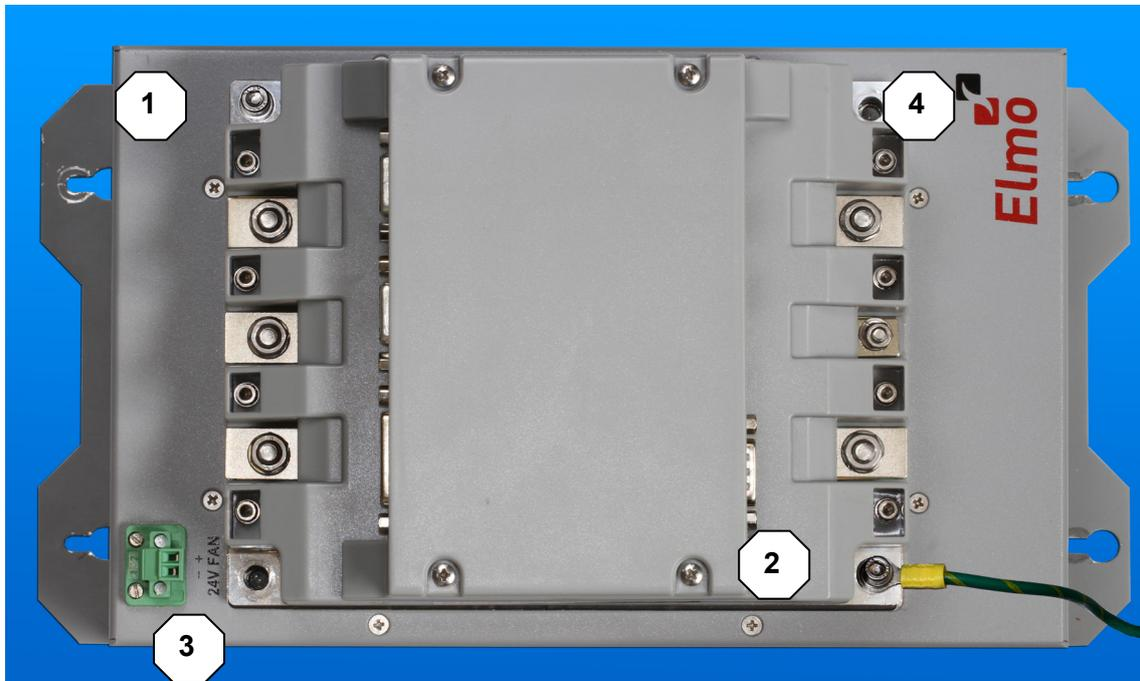

Figure 7: Pattern to install four securing screws
- b. Install the second screw and grounding cable lug at the opposite diagonal corner as shown in Figure 7, but only tighten to hand-tight (0.5 Nm).
- c. Repeat steps a. and b. for the third and fourth screws as shown Figure 7. Make sure to only tighten the screws to hand-tight (**0.5 Nm**).